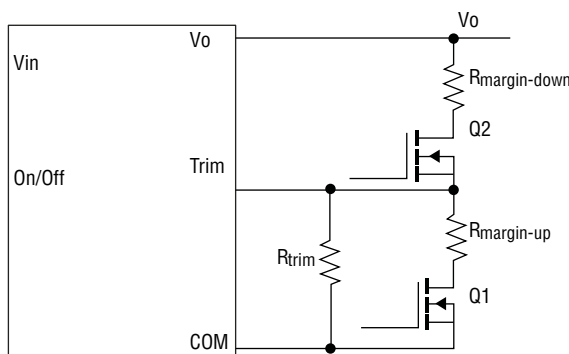

Fig. 26 Circuit Configuration for Margining Output Voltage
Output voltage margining can be implemented as follows and as shown in Figure 26.
The thermal reference points are (1)  $T_{ref1}$  = temperature at dual Mosfet as shown in Figure 26, and (2)  $T_{ref2}$  = temperature at controller IC. For reliable operation, neither  $T_{ref1}$  or  $T_{ref2}$  should exceed 115 °C.